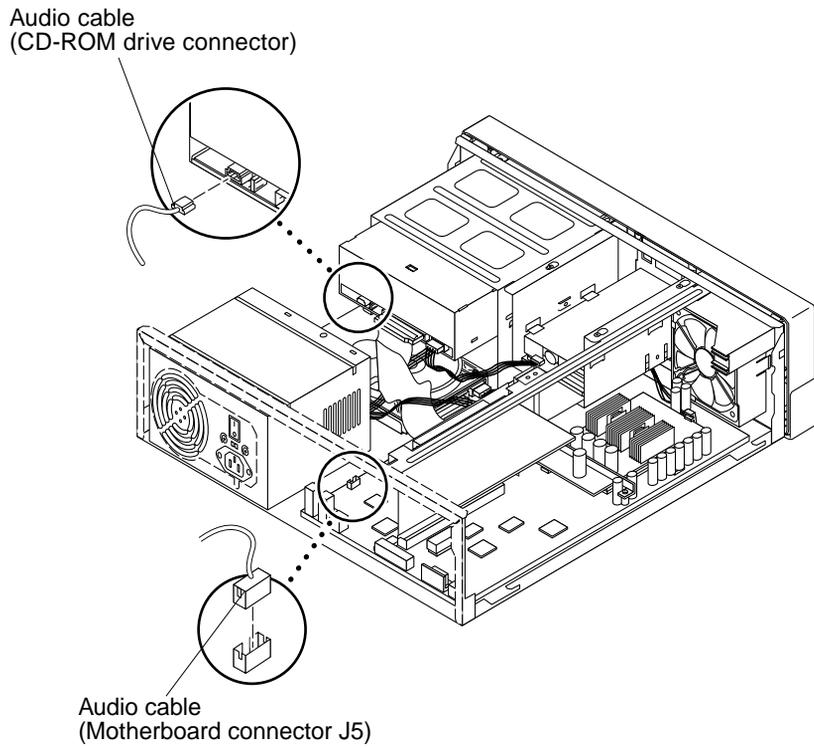
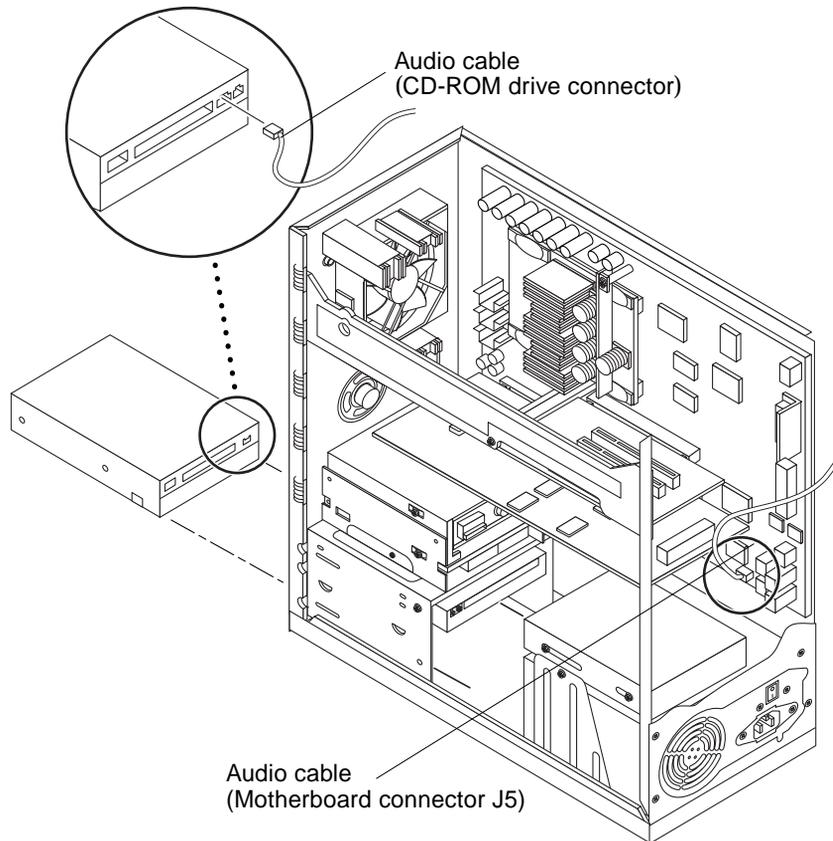

FIGURE 8-9 Removing and Replacing the Audio Cable (Ultra 5)
FIGURE 8-10 Removing and Replacing the Audio Cable (Ultra 10)
- a. Remove the audio cable assembly connectors from the following (FIGURE 8-9 or FIGURE 8-10):**
1. **Replace the audio cable assembly as follows (FIGURE 8-9 or FIGURE 8-10):**